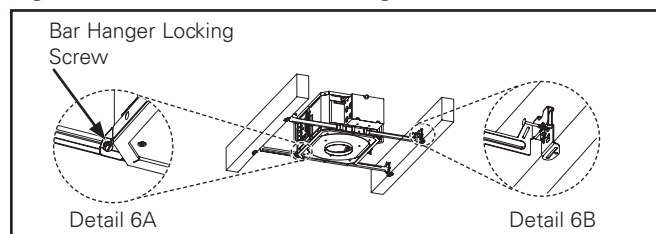

Figure 6.
1. Extend bar hangers to fit between joist and position mounting tab locator lip tight to bottom of joist or framing member. Bar hangers should be level with bottom of joist or framing member. (Figure 6.)